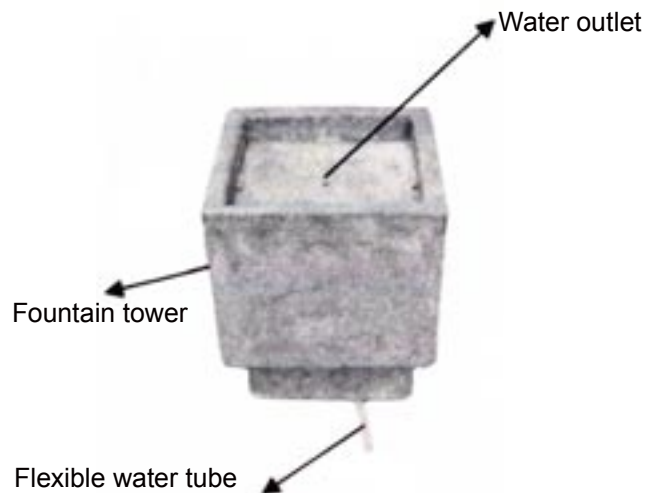
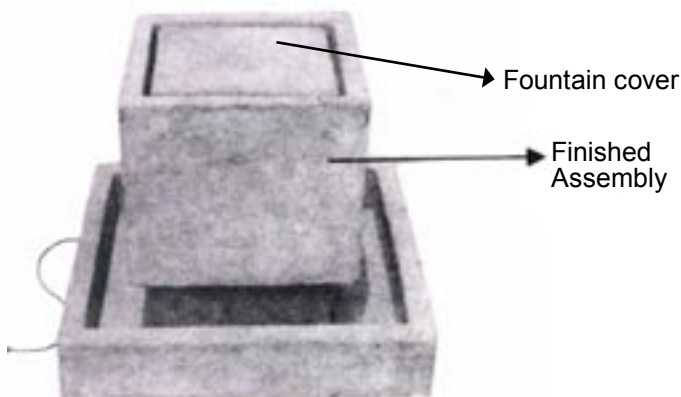

Figure 2
Figure 3
4. Attach plastic water hose from tower (fig. 2) to water output on top of pump. Lower pump and upper piece into position into sunken area of base (fig. 3).